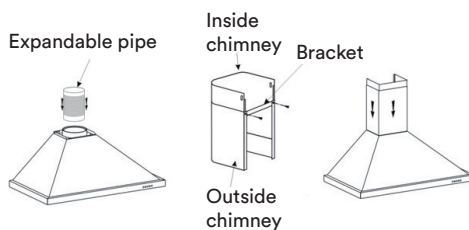

Figure 5
5. Fix the outside chimney bracket on the outside chimney, and be sure that the inside chimney can be adjusted the height in it freely as well as fixing the extensible pipe. Next, install the extensible pipe and chimney on the rangehood. (Figure 5)